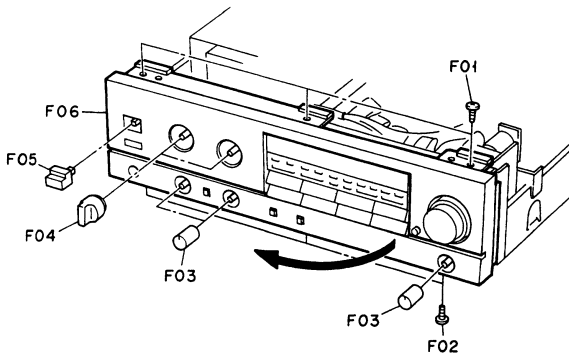

Fig. 2.2.1
2.2. Front Panel Ass'y, Remote Control Sensor P.C.B. Ass'y and Power Indicator P.C.B. Ass'y Refer to Figs. 2.2.1 and 2.2.2.